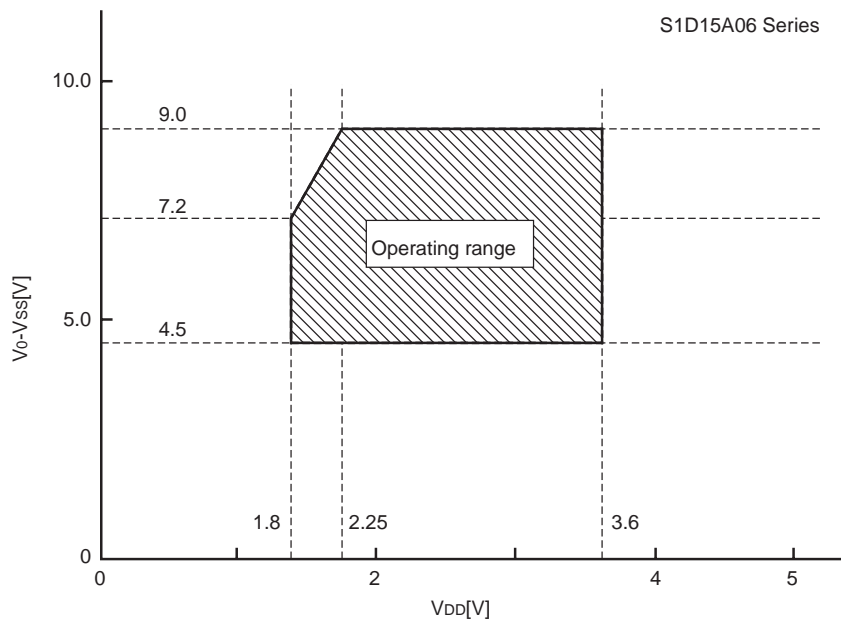

Figure 21
- * 2 : See Figure 21 for the operating voltage range of V_{DD} and V_0 systems. It is applicable when an external power supply is used.
- * 3 : A0, D0 to D5, D6 (SCL), D7 (SI), \overline{RD} (E), \overline{WR} (R/ \overline{W}), CS, CL, C86, P/S and \overline{RES} pins. $V_{IH} = 0.8 \times V_{DD}$ to V_{DD} , $V_{IL} = V_{SS}$ to $0.2 \times V_{DD}$ when $V_{DD} = 1.8V$ to $2.7V$.
- * 5 : A0, \overline{RD} (E), \overline{WR} (R/ \overline{W}), \overline{CS} , C86, CL and \overline{RES} pins.
- * 6 : It is applicable when D0 to D5, D6 (SCL) and D7 (SI) pins are placed in high impedance.
- * 7 : It represents the resistance value to be employed when 0.1V is applied across the output pin SEGn or COMn and respective power terminals (V_1 , V_2 , V_3 and V_4). It must be selected within the operating voltage range (3).